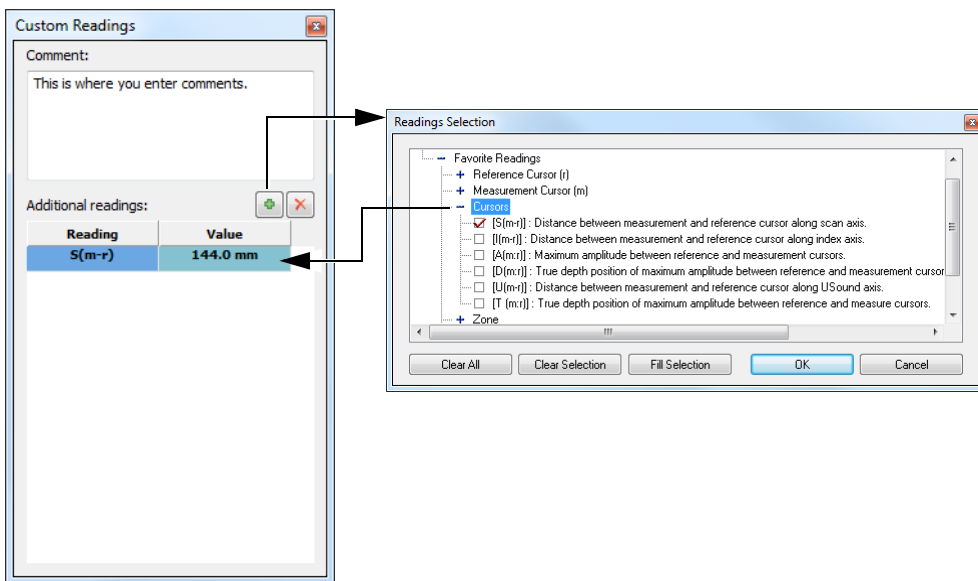

Figure 6-9 Adding a comment and an additional reading to an indication
- c) In the **Custom Readings** dialog box that appears (see Figure 6-9 on page 327), type your comment for that indication in the **Comment** text box. The comment then appears in the **Comments** section of the report for the selected indication.
9. You can also include additional readings to the indication table (see Figure 6-9 on page 327):